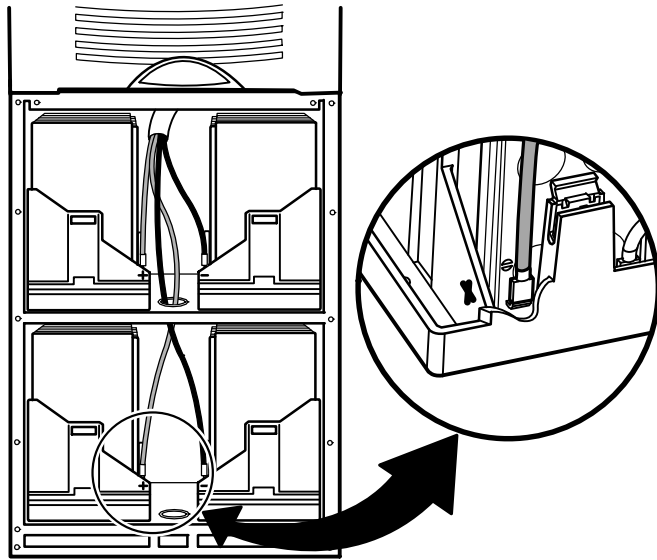

Figure 6. Connecting the Battery Circuit Breaker Wires
8. Connect wires from the battery circuit breaker (already routed to the front of the UPS) to the battery terminals, as described below (see Figure 6):